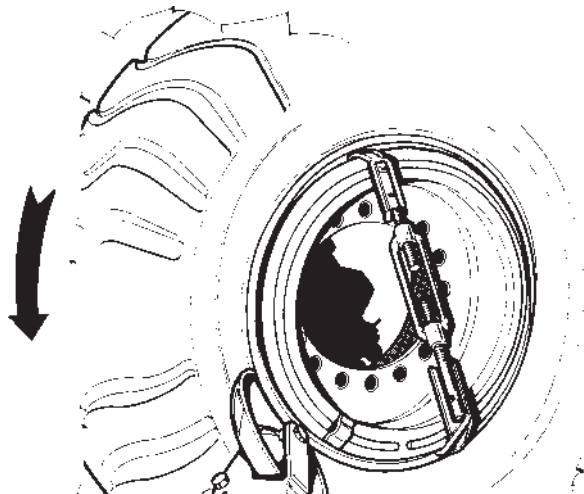

Fig.30
1. Position the bead-breaker disc close to the rim edge (Fig.30).